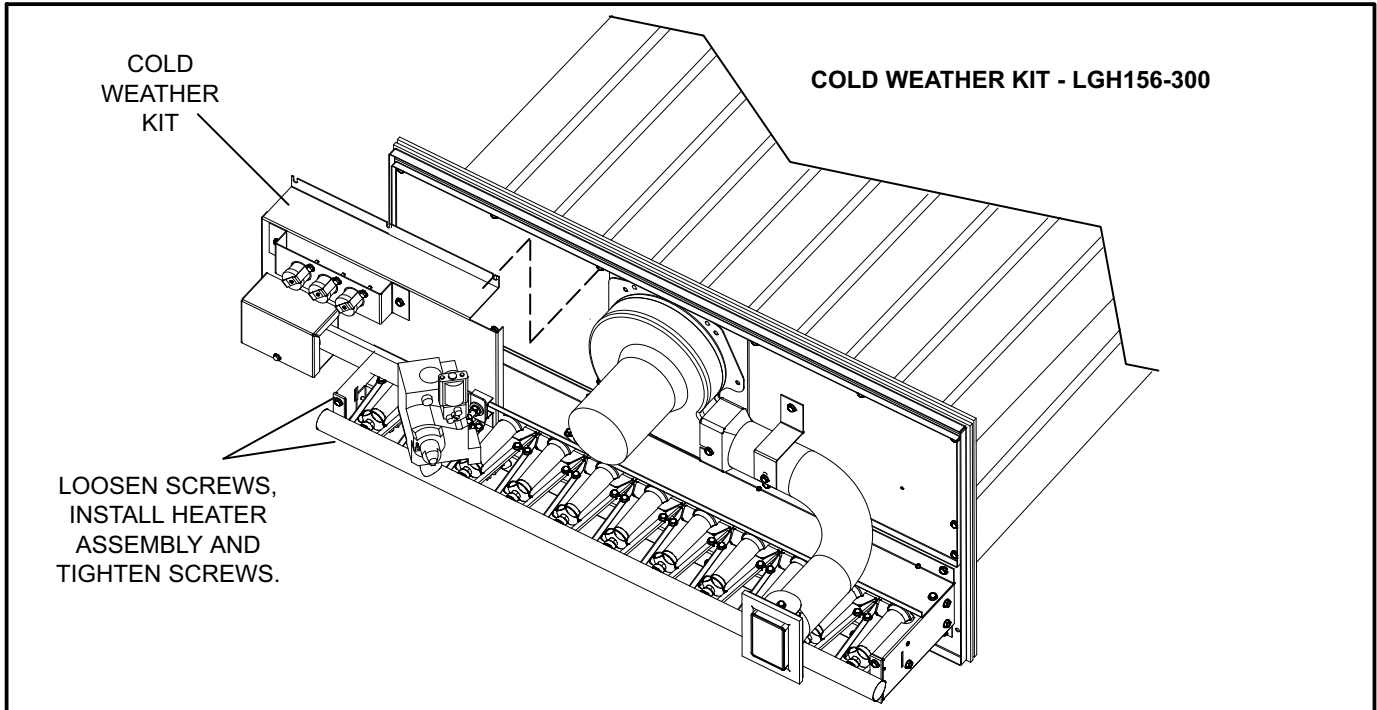

FIGURE 8
- 2- Install both cold weather assemblies as shown in figure 8. Use existing screws.